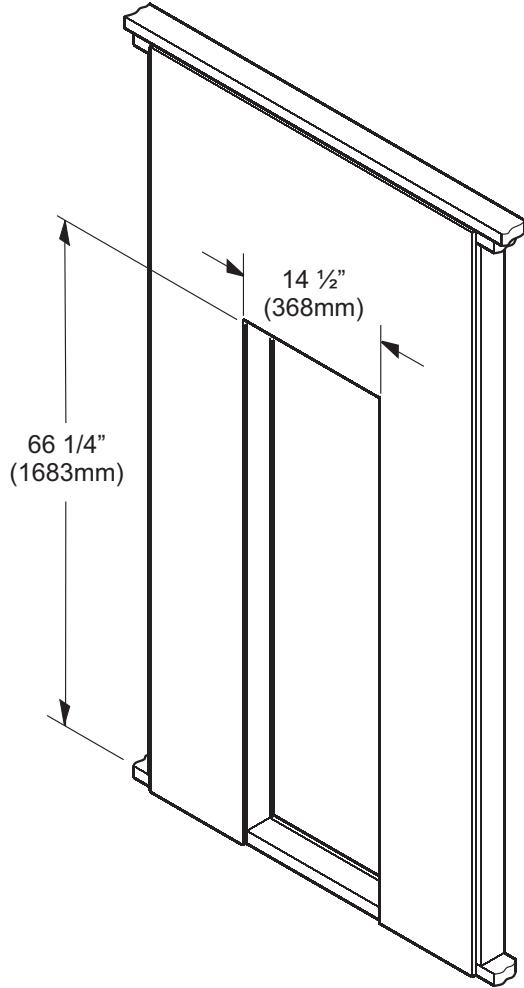

Figure 14
- Provide an opening in the wall  $14\frac{1}{2}$ " (368 mm) wide and  $66\frac{1}{4}$ " (1683 mm) high measured from top of floor plate (See Figure 14 and Figure 19). Wall depth is to be 2" x 4" framing with  $\frac{1}{4}$ " (6.5 mm) to  $\frac{5}{8}$ " (16 mm) sheeting.